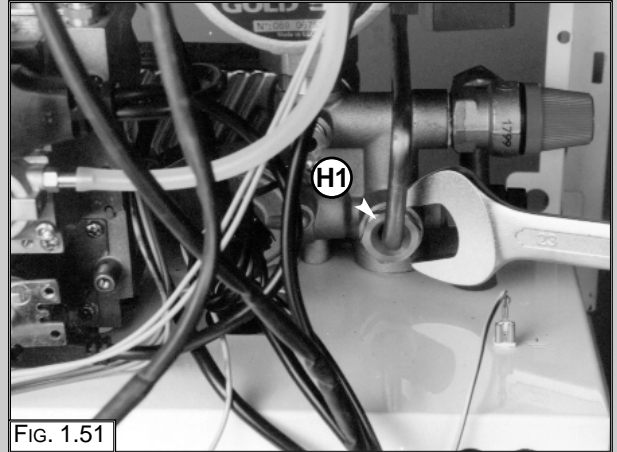

FIG. 1.51
1. Loosen nut "H1" (FIG. 1.51);